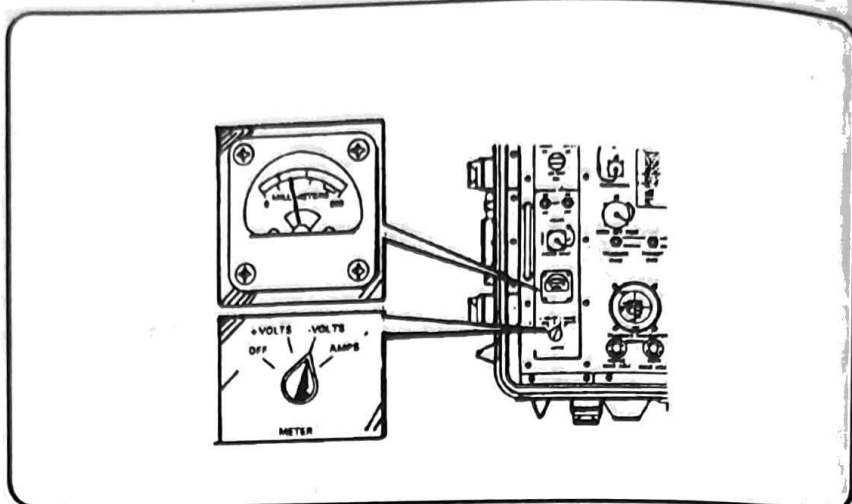

Figure 6-13. Conducting voltage test.
4. Conduct the voltage test (Figure 6-13).